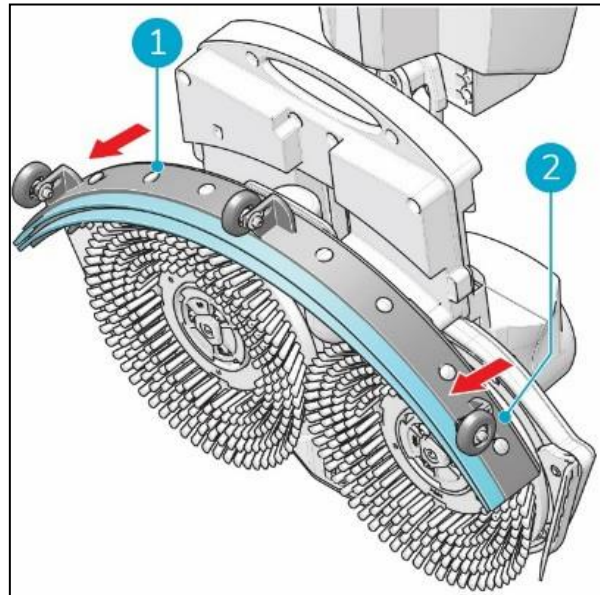

Figure 27
3. Pull on the left side of the squeegee to remove it (Figure 27, pos 1).
4. Pull on the right side of the squeegee to remove it (Figure 27, pos 2).